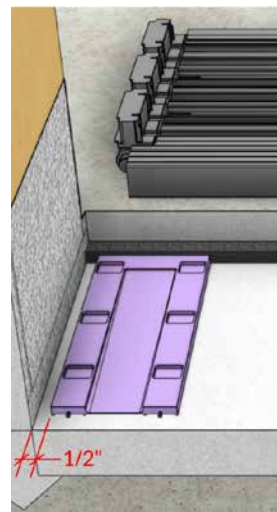

Fig 4
- Place the Drainage Shims provided in the Installation Kit, onto the sill pan against the foam tape at the back of the rough opening. (Fig 4 & 5)
- Place one shim at each end of the R.O. inset 1/2" from the edge. (Fig 4.)